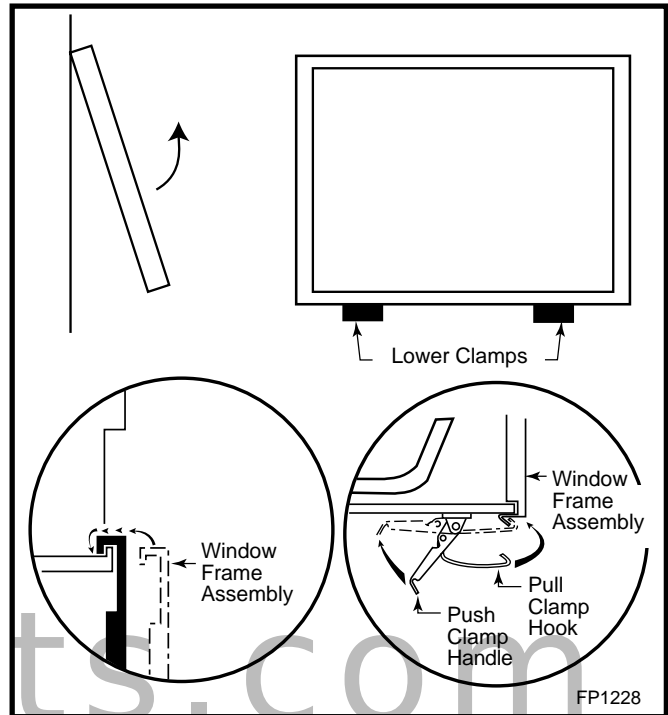

Fig. 35 Window frame assembly removal.
5. Release the two clamps securing the lower edge of the frame by pulling down on the handles. (Fig. 35)